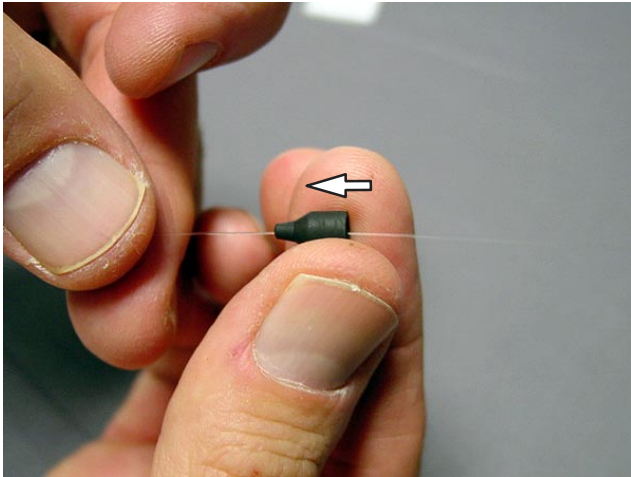

Figure 34
6. (Optional) Slide boot on the cable with the small end first, as shown in Figure 34. Repeat for second end.